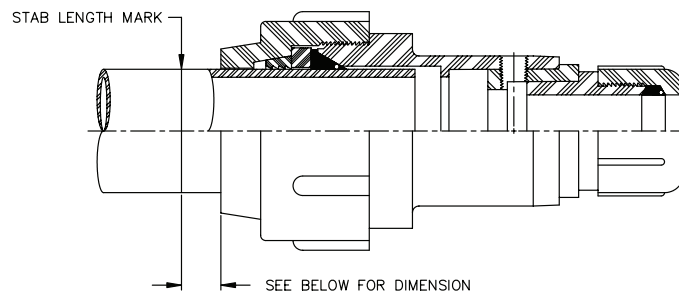

Figure 2
5. Tighten compression nut until it shoulders against the body of the outlet. **Do not over tighten.** If you cannot see the stab mark or the end of the compression nut is not within the distances listed below, reassemble fitting. See figure 2.